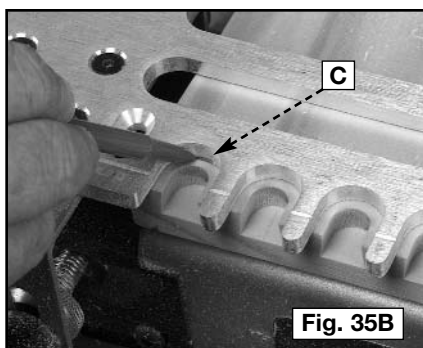

Fig. 35B
**Step 2** - Use a pencil to mark the location of the half-circle between the fingers of the templates (C) Fig. 35B.